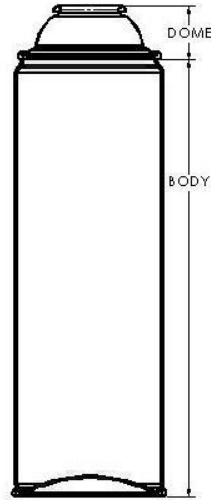

Figure 1 - Can
1. Can: For the purpose of this discussion we will break the can into two parts, the body and the dome (see Figure 1).